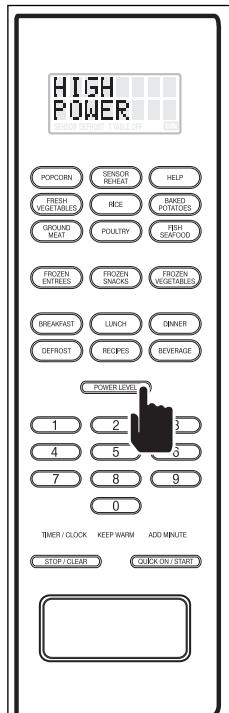

Figure 3-45.
4. Press the POWER LEVEL key once, until the display shows "HIGH POWER" (See Figure 3-45).